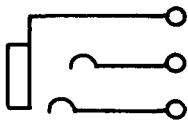

Fig. 10—292 Jack
**2.10 292:** This strip-mounted jack (Fig. 10) is used with the 309 plug. This jack is furnished only on orders for jack mountings. The terminals of the tip and ring springs will accommodate two No. 19B and S gauge wires. This jack is used with the 113, 138, and 139 type jack mountings.